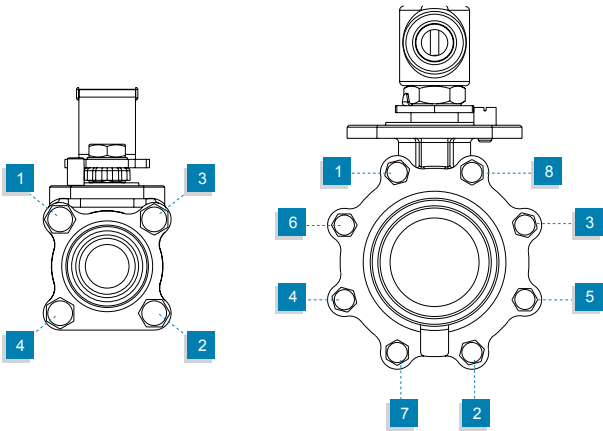

FIGURE 3
- 8.4.** Remove all but one body bolt, so the valve body can swing away from its installed position and be brought out of the pipe line (see **figure 3**).